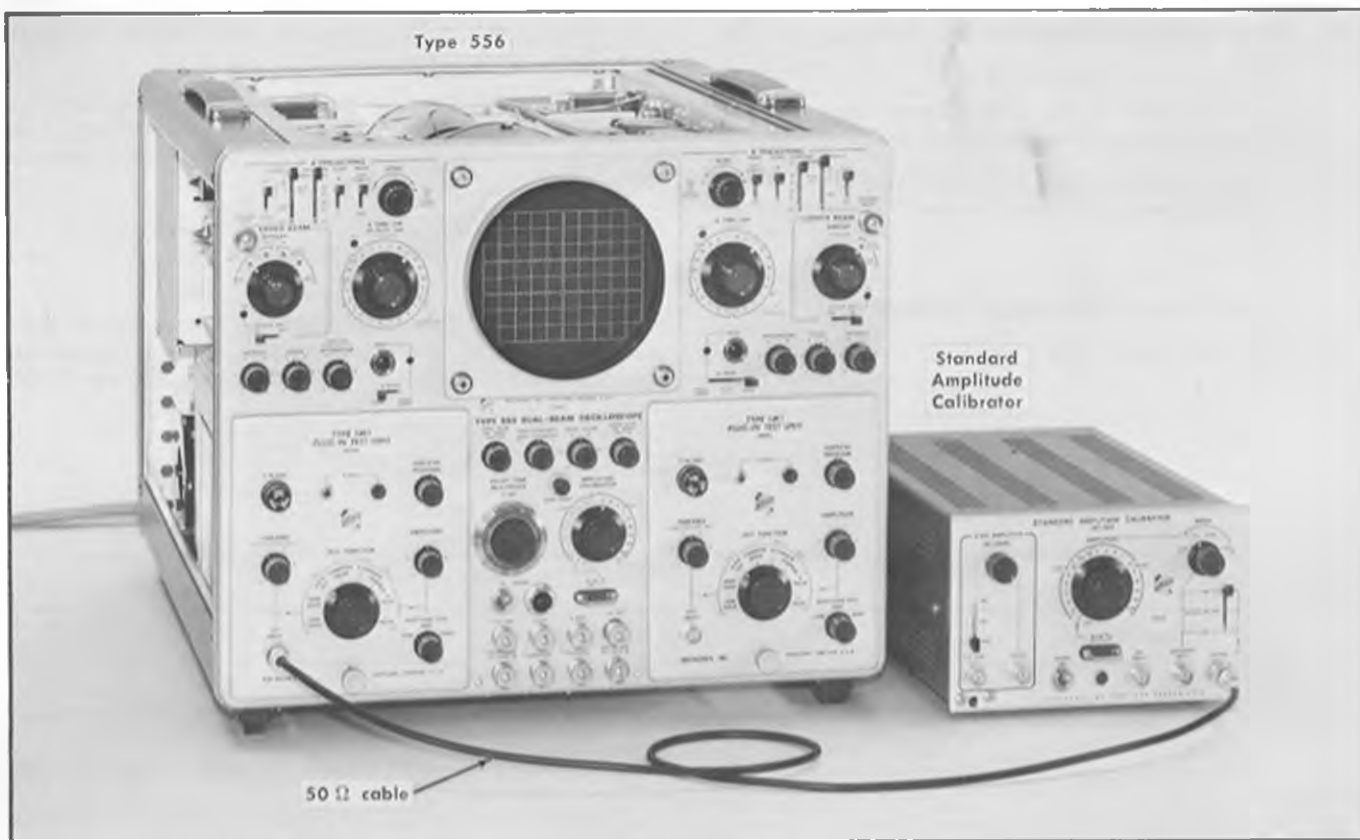

Fig. 6-22. Equipment setup for vertical amplifier gain adjustments.
- The equipment setup for this step is shown in Fig. 6-22.